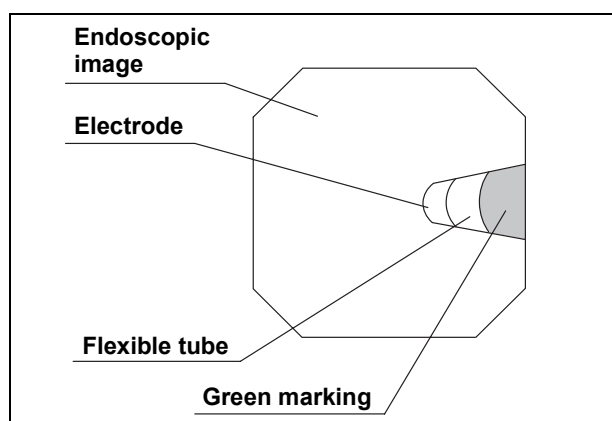

Figure 4.4
- Always confirm that the electrode section of the electrosurgical accessory is an appropriate distance away from the distal end of the endoscope. Confirm that the green marking at the distal tip of the electrosurgical accessory can be observed on the endoscopic image (see Figure 4.4). If the electrode is used when too close to the distal end of the endoscope, the endoscope and/or ancillary equipment may be damaged. Using a damaged endoscope may cause patient injury.